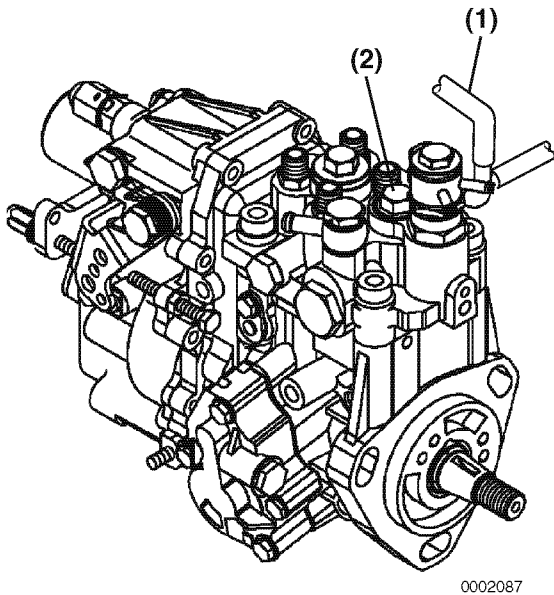

Figure 7-41
2. Clamp shut the fuel injection pump fuel return hose leading to fuel filter (**Figure 7-41, (1)**).
3. Remove the forward fuel injection pump plunger plug (**Figure 7-41, (2)**) on the top of the fuel injection pump.